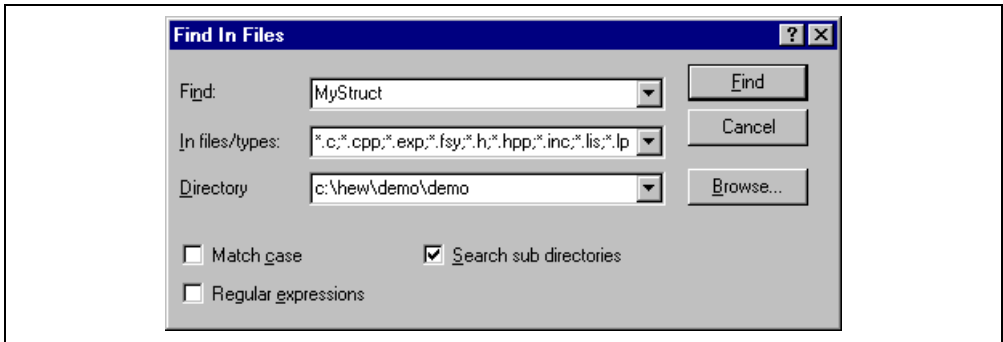

Figure 4.3: Find in Files Dialog
1. Select **[Edit->Find in Files...]**, select **[Find in Files...]** from the editor window's local menu or click the find in files toolbar button (🔍). The "Find in Files" dialog box will be displayed * MERGEFORMAT (figure 4.3).